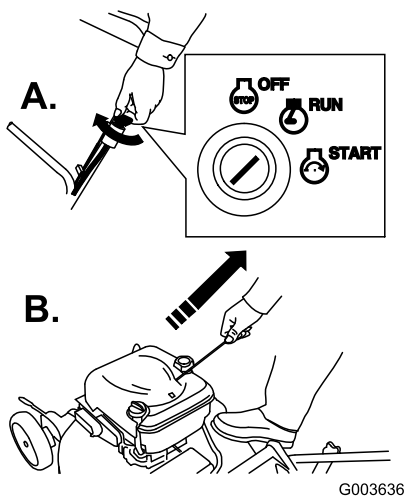

Figure 26
- Turn the ignition key to the Run position and pull the recoil starter at the engine (Figure 26).